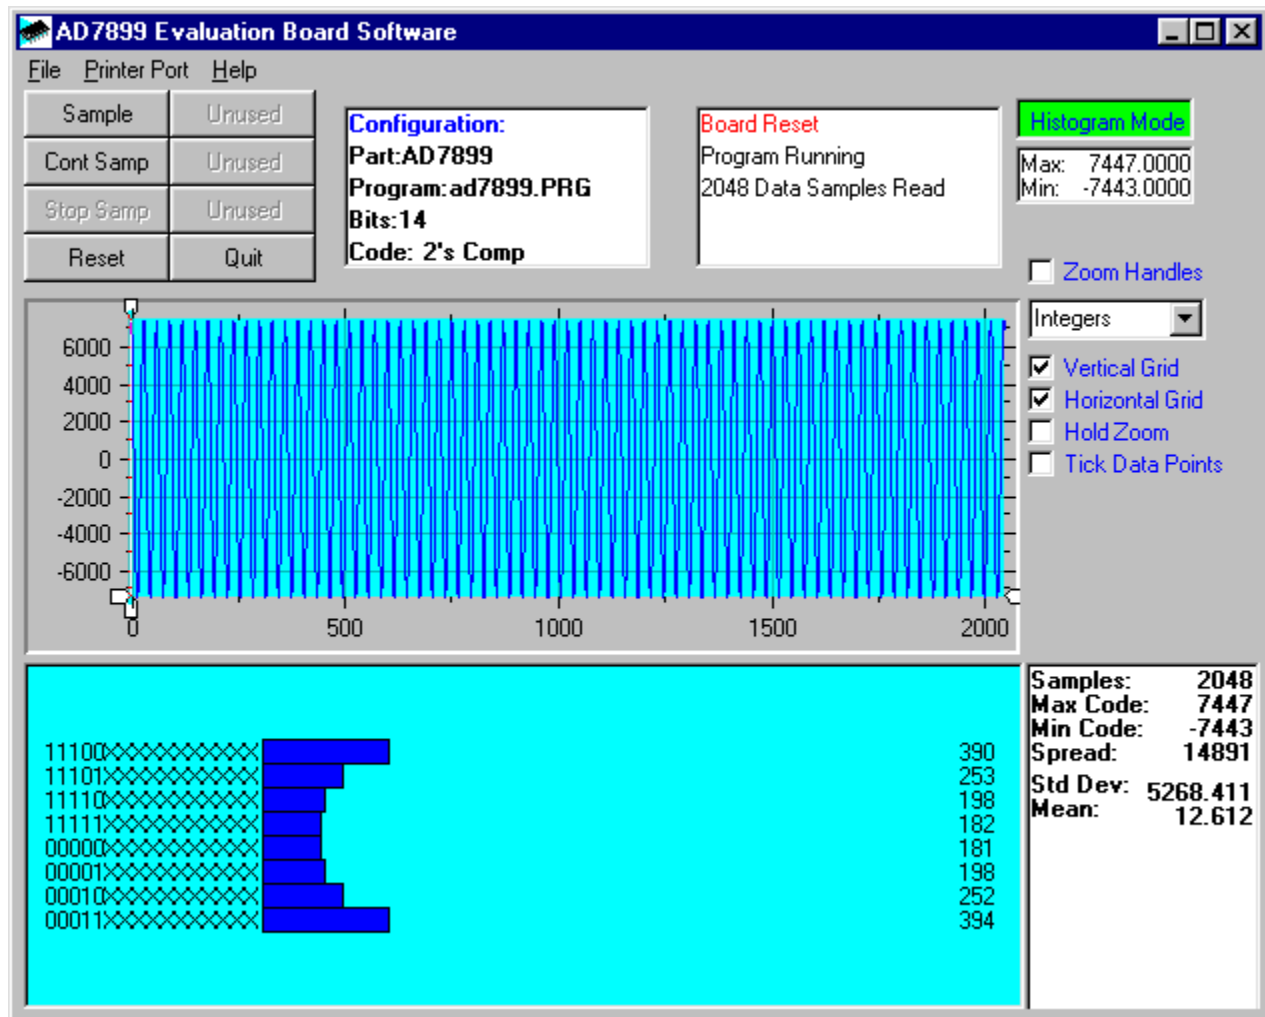

Figure 3. AD7899 Main Screen - Histogram Mode
The lower third of the screen will show either a Fast Fourier Transform (FFT) of the data or a Histogram which shows the number of occurrences of each particular code read back. The FFT (the default option) is typically used when the user is concerned with examining an ADC's performance in the frequency domain while the Histogram will give an indication of the ADC's performance to DC signals. The option displayed can be toggled by clicking on the FFT Mode/Histogram Mode button in the top right of the screen. Figure 3 shows how the main screen looks when the Histogram Option is selected.
**Setup Menu:** Selecting this option displays the Setup Screen as shown in Figure 3.